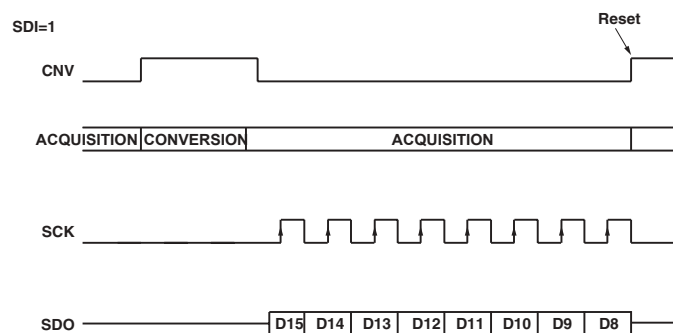
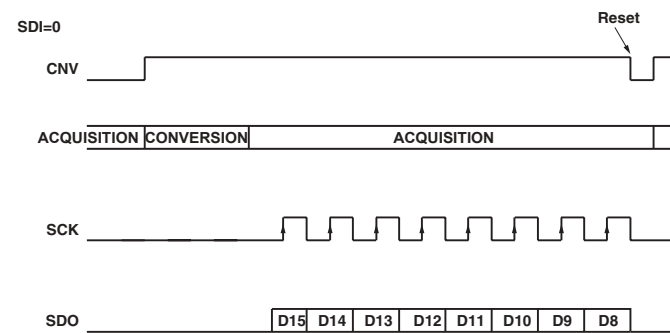
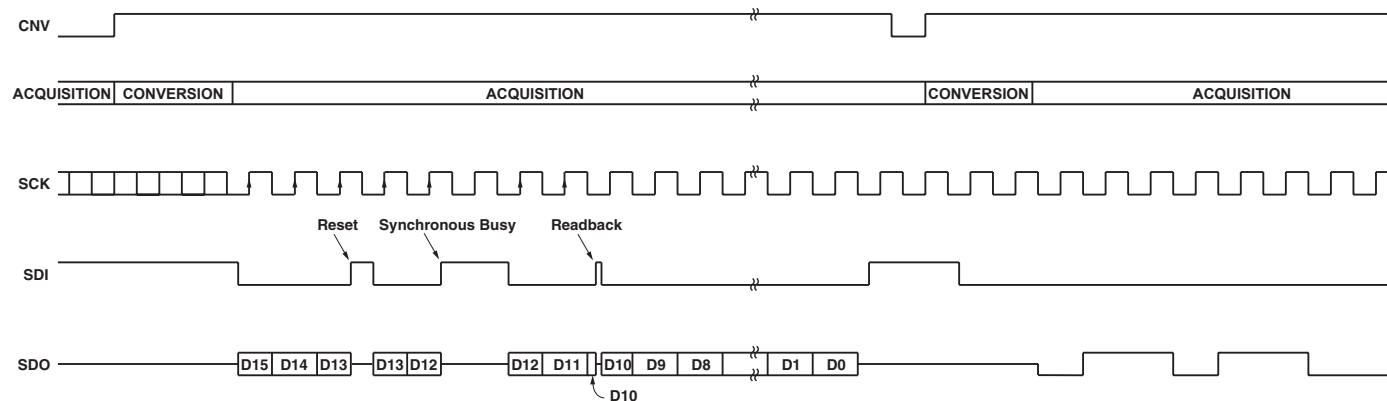

Figure 17. Example of programming configuration using CNV in $\overline{CS}$ mode.
Figure 18. Example of programming configuration using SDI in Chain mode.
Figure 19. Example of programming configuration using SDI in $\overline{CS}$ mode followed by a configuration readback.
- In $\overline{CS}$ mode, when CNV is low and SDI is high (figure 17), or when SDI is low and CNV is high (figure 19). If CNV and SDI are both low, the previous SCK rising edges which occurred during the current part selection are ignored and the configuration is not changed when the part is deselected.
- In Chain mode, when CNV is high (figure 18).
- In $\overline{CS}$ mode, when CNV goes high while SDI is high (figure 17), or when SDI goes high while CNV is high (figure 19).
- In Chain mode, when CNV goes low (figure 18).
In $\overline{CS}$ mode using CNV to select the part (figure 17) or in Chain mode (figure 18), only one single change of the configuration can be done per conversion. However, a “Reset to default settings” command (3 or 8 SCK pulses) changes the configuration to a factory predefined configuration (warp mode, High bandwidth, asynchronous busy indicator and falling SCK driving edge). SPI compatible digital hosts offer the possibility to send 8 SCK pulses by software. A truncated valid ADC result is still available on the SDO output.
In $\overline{\text{CS}}$ mode, using SDI to select the part, a complete new configuration could be selected during a single conversion as shown in figure 19. In this case, the selected feature depends on the total number of SCK rising edges seen since the end of conversion. The data on the SDO output is still the valid ADC result and the complete 16 bits result can be read. In the example shown figure 19, the selected configuration is high bandwidth, synchronous busy indicator, falling SCK driving edge, warp mode and the configuration will be readback after the subsequent conversion.
When the readback command is selected, the configuration will be output on the SDO pin in place of the ADC result during the data read of the following conversion as shown in figure 19.